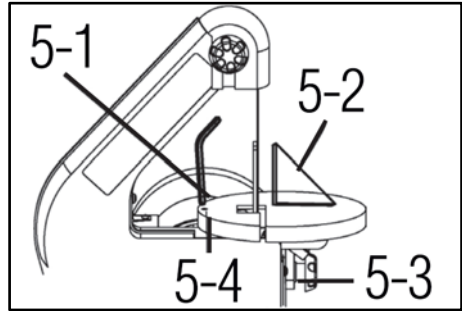

Fig. 5
3. Place the one leg of the triangle, as shown in figure 5, on the table and hold the other leg against the sanding belt. Check that the table is 90° angle to the belt. Adjust the table if necessary.